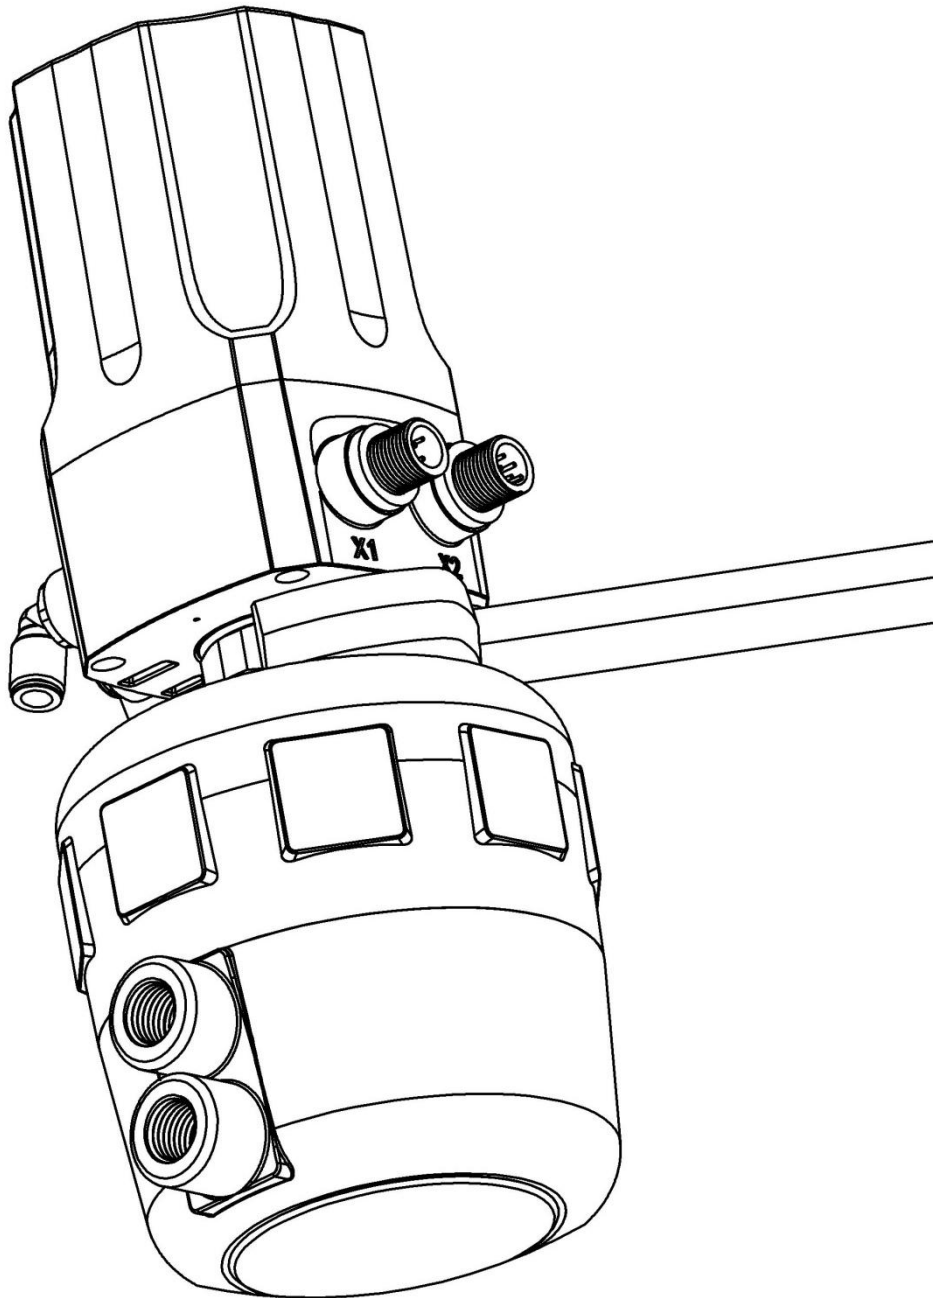

Figure 6. Actuator Combination
4. Raise the internal valve stem of the actuator to the highest position. Make the actuator connection of the positioner entering into the thread connection of the actuator by **NO.32 wrench**. As shown in Figure 6.